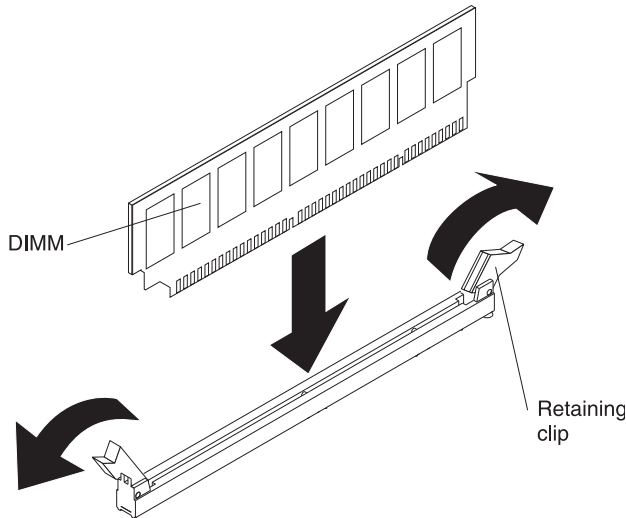

Figure 117. Installing the DIMM
5. Insert the DIMM into the connector by aligning the edges of the DIMM with the slots at the ends of the DIMM connector, as shown in Figure 117. Firmly press the DIMM straight down into the connector by applying pressure on both ends of the DIMM simultaneously. The retaining clips snap into the locked position when the DIMM is firmly seated in the connector.